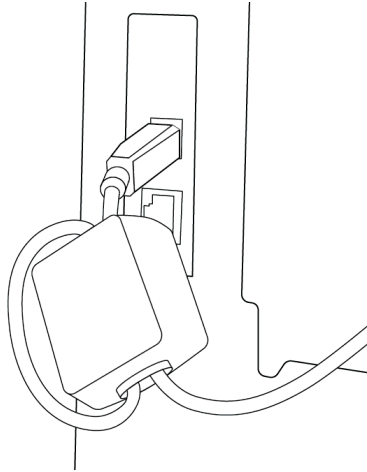

Figure 6-19. Ferrite installed on the printer's data cable
9. Install the ferrite (Würth Elektronik model 742 712 22) on the printer's data cable, looped a single time two inches from the end that will plug into the printer (Figure 6-19).